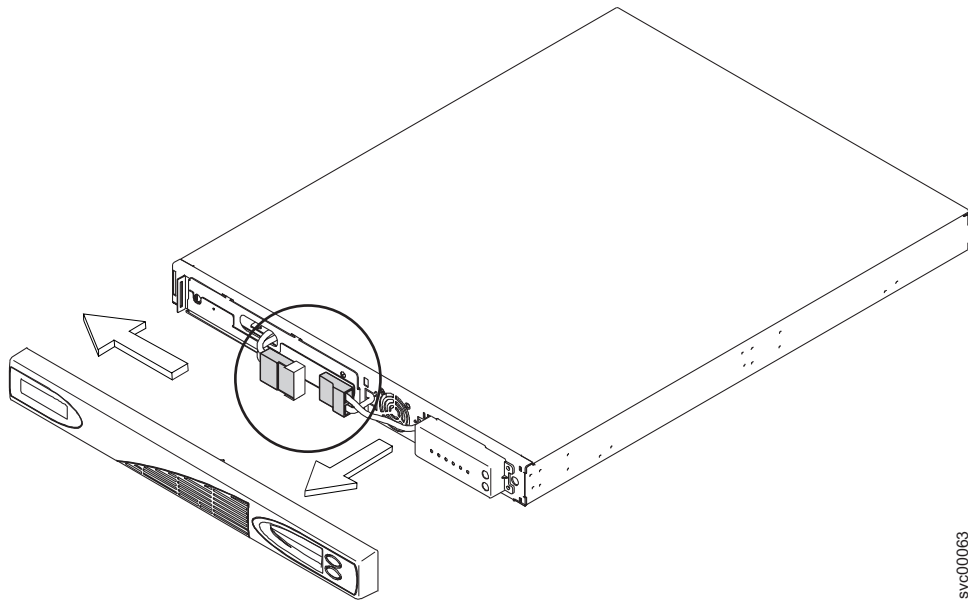

Figure 67. Removing the 2145-1U uninterruptible power supply front panel
3. If you have not already connected the internal battery connector, remove the 2145-1U uninterruptible power supply front panel, as shown in Figure 67.